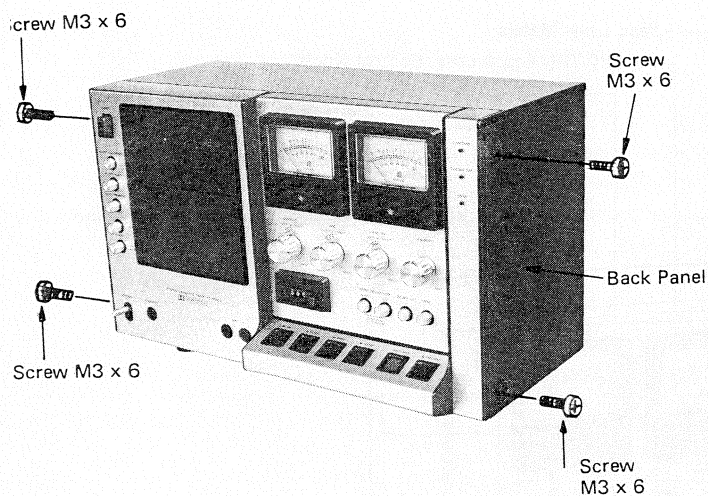

Figure 3. Location of Screws
1. Remove four screws from the both sides of the back panel. See figure 3.